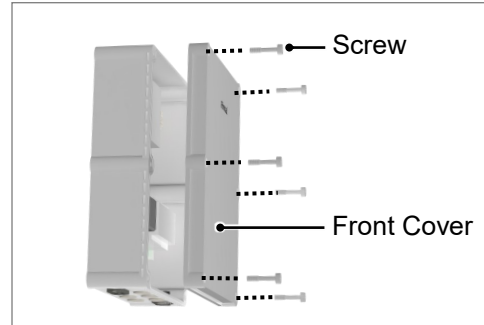

Fig 95. Remove Front Panel of BMS Gateway
- Use a Phillips head screwdriver to remove the six plastic screws attaching the front cover to the enclosure (Fig 95).